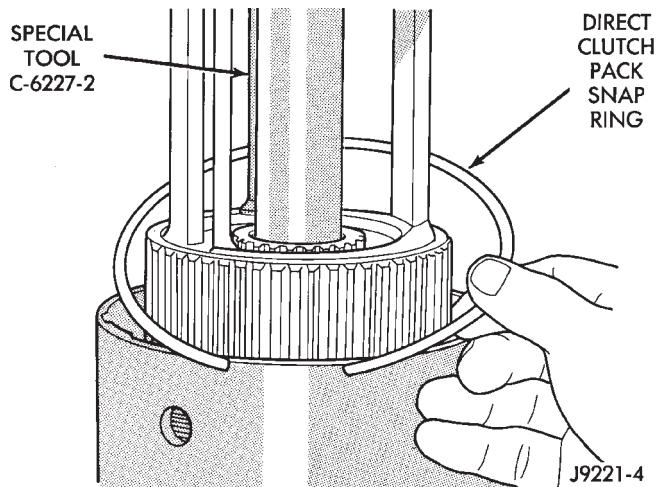

Fig. 54 Installing Direct Clutch Pack Snap Ring
(30) Install direct clutch pack snap ring (Fig. 54). **Be very sure snap ring is fully seated in clutch drum ring groove.**